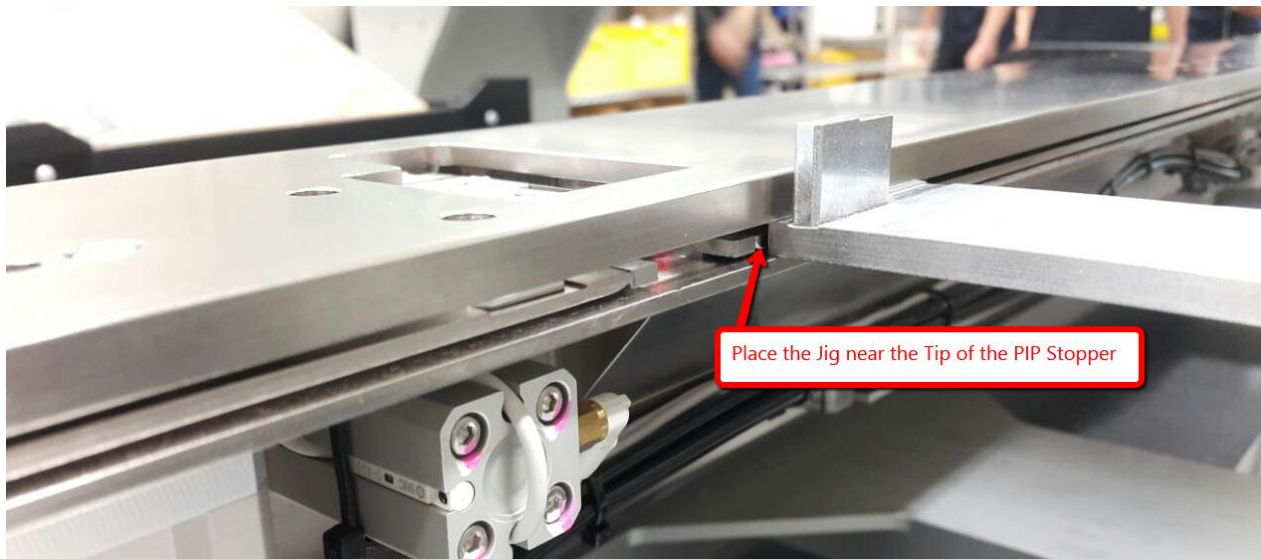

Figure 16 Right PIP Stopper
18. Re-position the 4LASS-A265 near to the edge of the Right PIP Stopper as Figure 16.